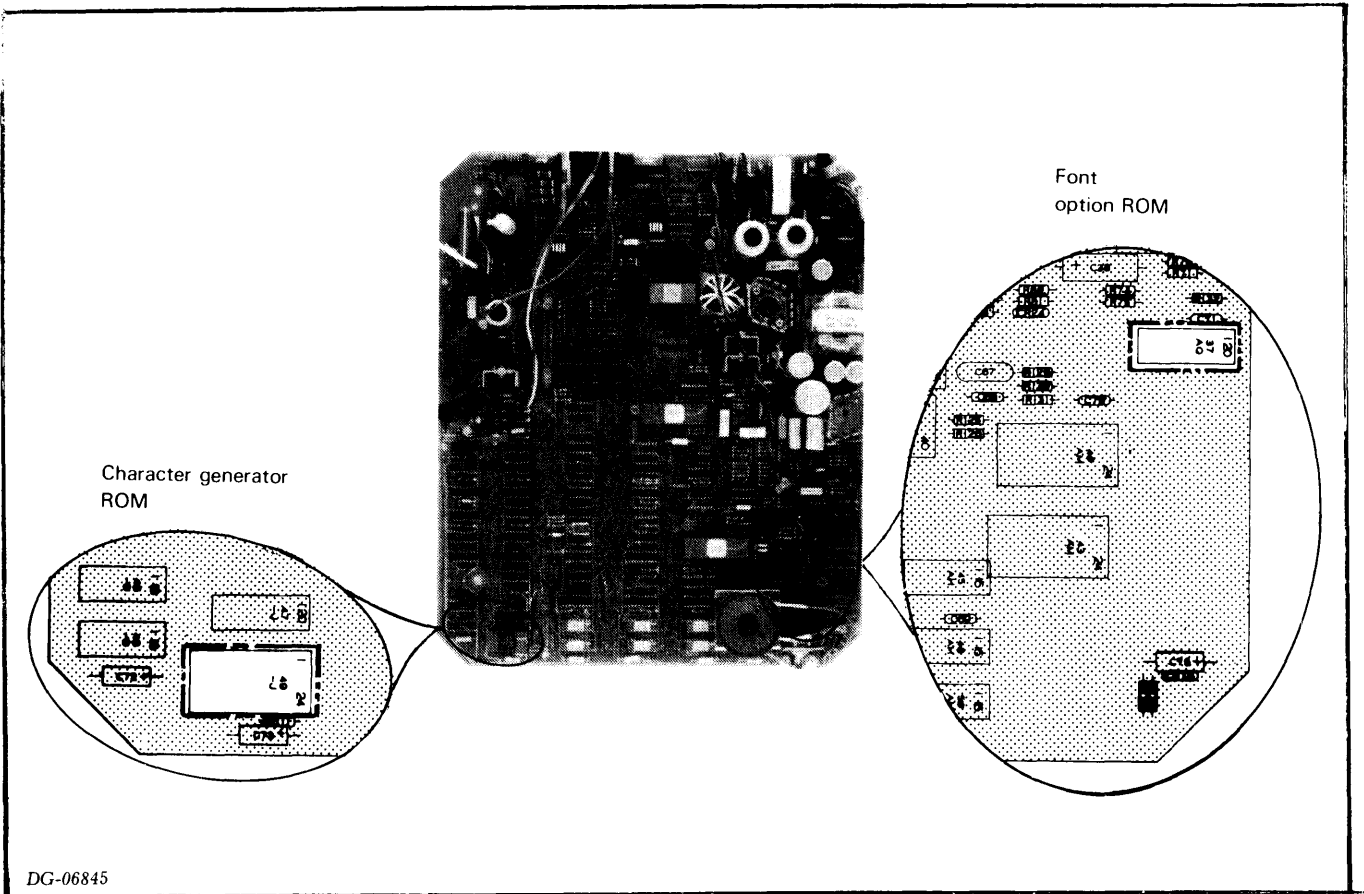

Figure 8.16 ROM locations
4. On an export circuit board, remove both the character generator ROM and the font option ROM from the old board (see figure 8.16). Place these ROMs in the corresponding sockets on the new circuit board. Make sure that the ROMs are properly oriented and that no pins are accidentally bent under the ROM.